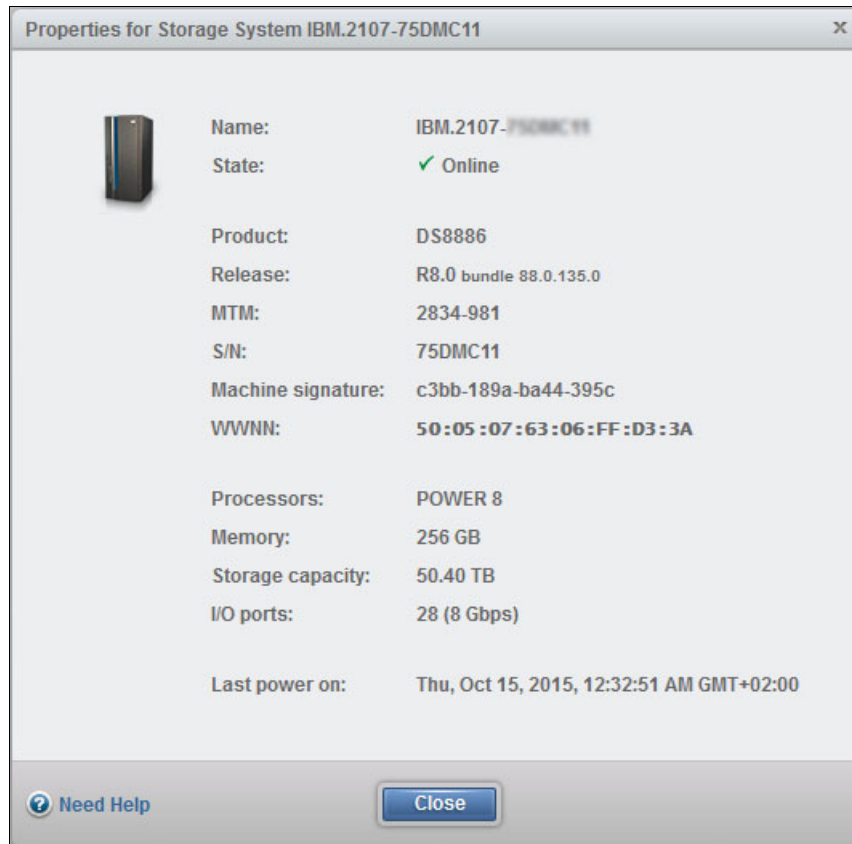

Figure 7-5 SFI WWNN value
3. Select **Properties** to obtain the WWNN value, as shown in Figure 7-5.